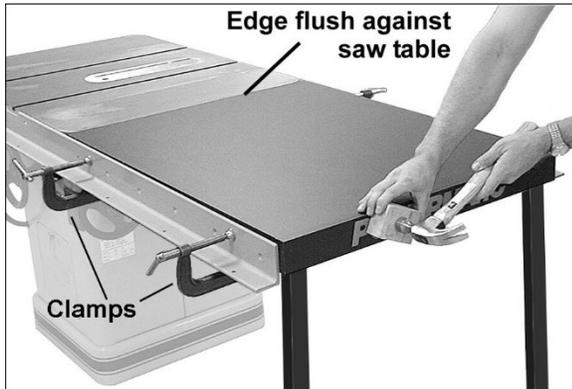

Figure 6-7
1. Place extension table between rails and up against saw table, leaving extension table raised just slightly above saw table. Clamp extension table to front and back rails as shown in Figure 6-7. Clamping pressure should be enough to secure table yet allow minor adjustments.
2. Use a rubber mallet (or hammer and flat block of wood) to tap extension table up flush against saw table (Figure 6-7). Then tap down extension table at various points along its edge where it meets saw table, until it is level with saw table (Figure 6-8).